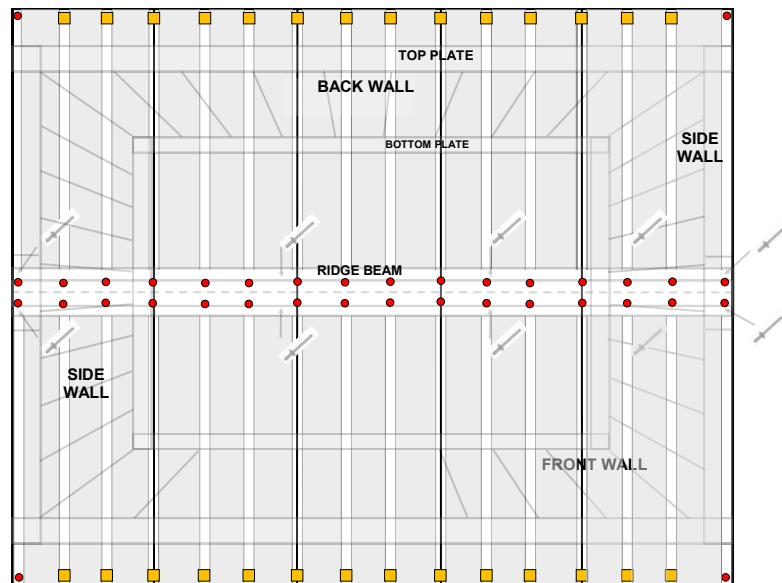

fig.2
- Rivet the 2 Ridge Caps together using 4 rivets, so total flashing is 2.550m long. Rivet the Ridge Flashing to the centre of the roof using 8 x rivets as shown (fig.2).